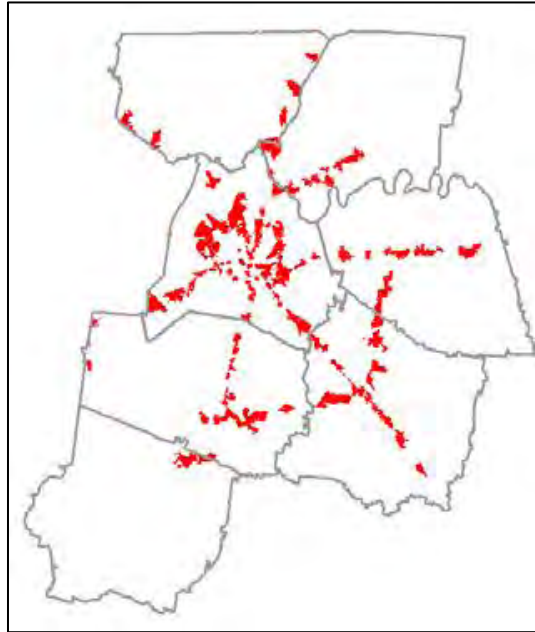

Figure 16. Proximity to Interchange Locations
1. Proximity to Interchange Locations: Census blocks within ¼ mile of existing controlled access interchanges (Figure 16).